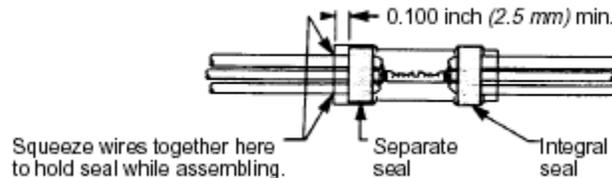

Figure 20-26 Center Sealing Sleeve
9. Position the sealing sleeve over the splice and over the separate multiple-hole seal so that the separate seal is fully seated within the end of the sealing sleeve as shown in Figure 20-26.